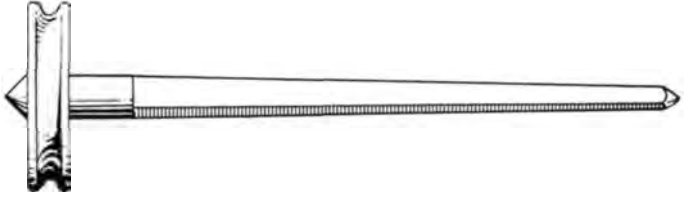
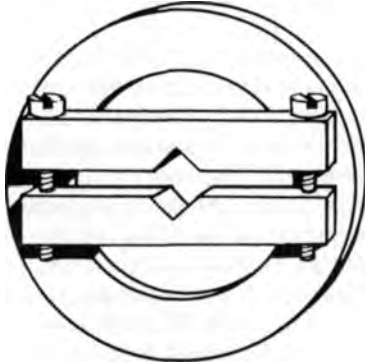

Fig. 16. Arbor.
Fig. 17. Adjustable ferrule.
**Turning.** The work to be turned is placed on a turning arbor (Fig. 16), or in an adjustable ferrule (Fig. 17). In both cases the assembly is supported between the centres.